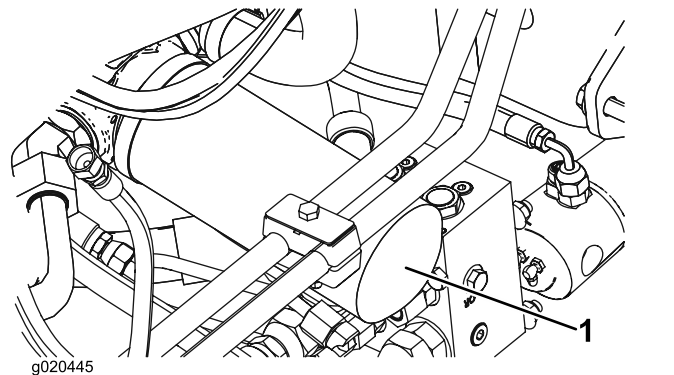

Figure 100
2. Clean the area around the filter mounting areas. Place a drain pan under the filter and remove the filter (Figure 100).